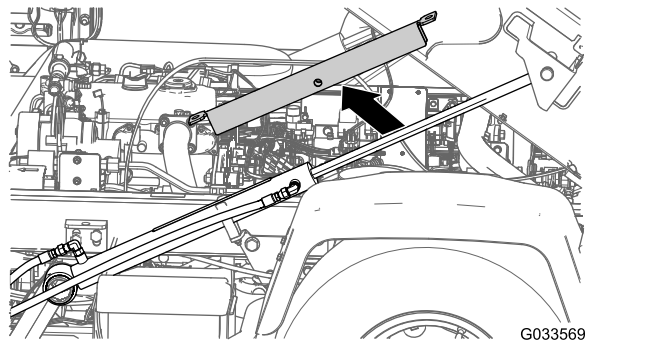
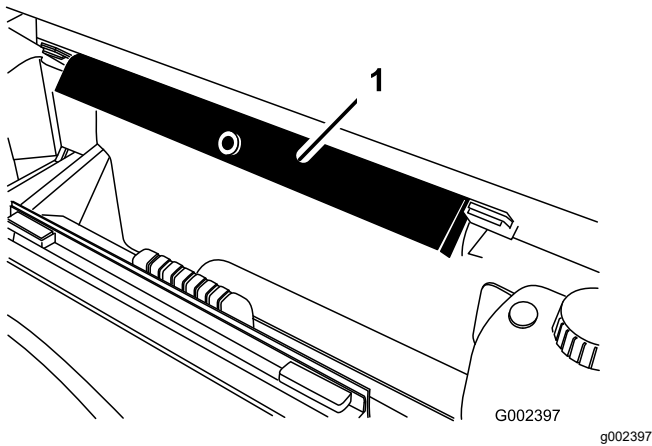

Figure 32
Figure 33
2. Remove the bed support from the lift cylinder and stow the support in the storage brackets at the back of the ROPS panel (Figure 32 and Figure 33).